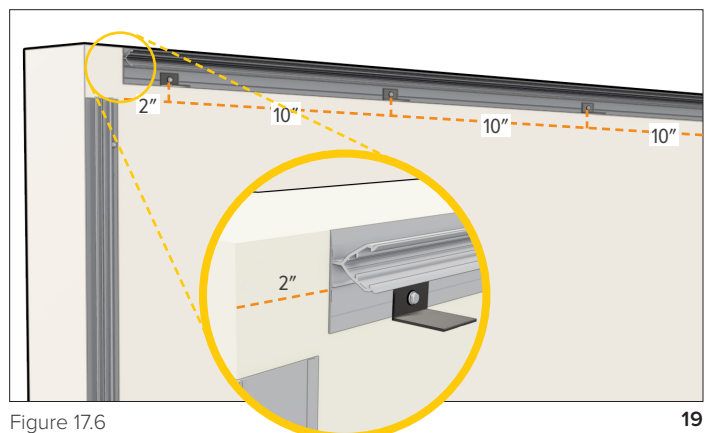

Figure 17.6
11. At the top of the wall run a two piece J back plate horizontally keeping it back 2" at ends and secure it by placing fasteners through the Plank Backers into the starter J fastener line at 10" o.c. and no further than 2" from the ends. The backers will hold the top edge of the last Plank flush to the main surface later in the process. (Figure 17.6)